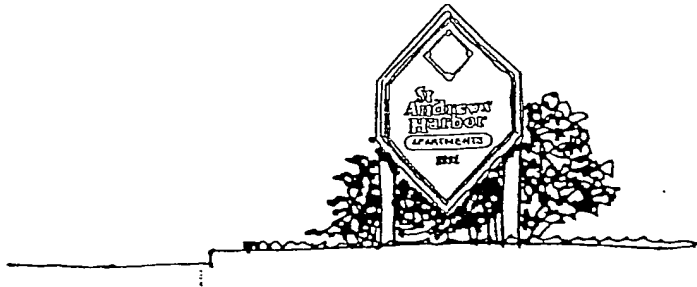

Figure 19
- ☐ Where a suitable wall is not available, construct a low monument sign at the project entry (Figure 19). Limit the height of the sign to a maximum of 4 feet. Set back from the property line at least 5 feet.